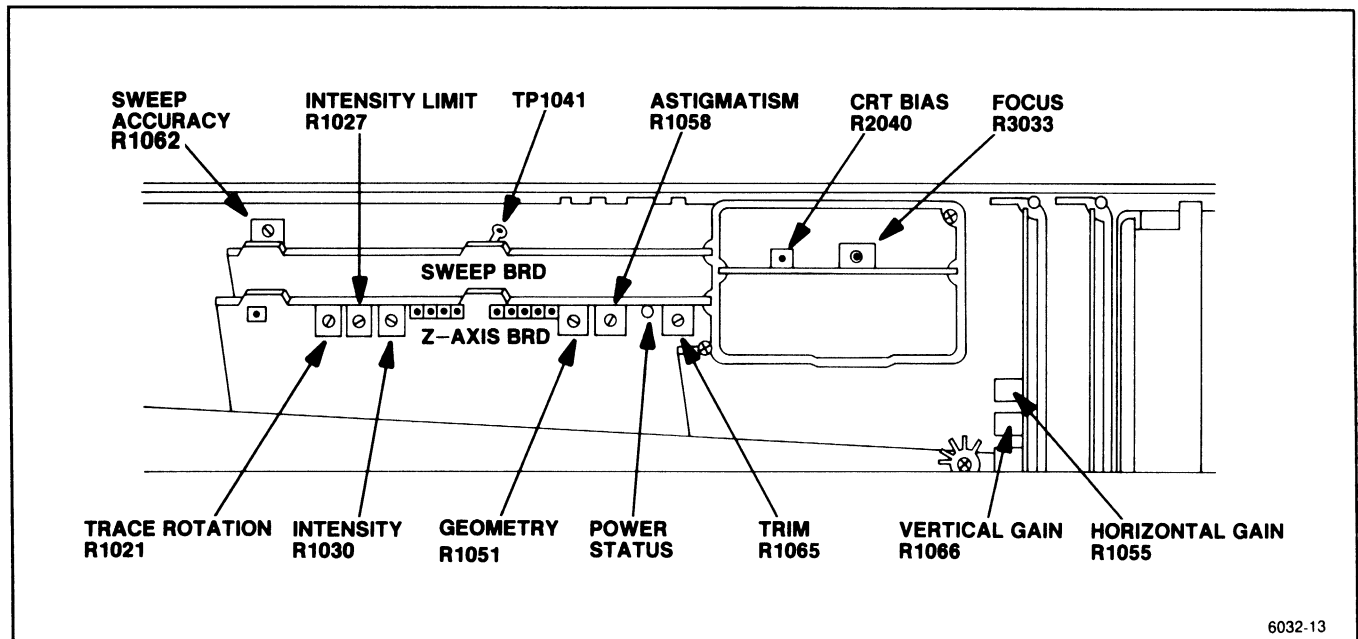
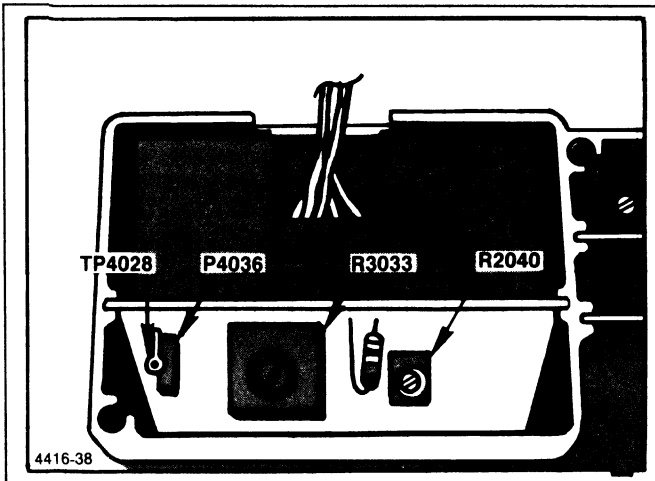

Figure 5-2. Crt display adjustment and test point locations.
Figure 5-3. Adjustment and test point locations on High Voltage module.
b. Remove the cover over the Z-Axis and Sweep boards. Set the Intensity Limit R1027, on the Z-Axis board (Figure 5-2) fully counterclockwise and Crt Bias R2040, on the High Voltage board (Figure 5-3) fully clockwise.
- (2) Turn the INTENSITY clockwise until a crt beam dot appears on screen.
- (3) Focus the dot by adjusting R3033 on the High Voltage board (Figure 5-3) for the smallest round dot.
(4) Set the INTENSITY for a collector voltage 5.5 V higher than the voltage noted in part d, subpart 1.
(5) Use the non-metallic screwdriver to adjust Crt Bias, R2040, counterclockwise until the crt beam is visible, then clockwise until the beam dot just extinguishes, with the screen shaded. (If no dot appears, with the adjustment fully counterclockwise, this will be the bias setting.)
(6) Turn the INTENSITY clockwise until a dot is visible then defocus the dot with the Focus adjustment, R3033. Adjust Astigmatism R1058 (Figure 5-2) for a round dot then refocus with R3033 for the smallest and sharpest dot.
(7) Turn the INTENSITY counterclockwise until the dot just disappears, and again measure the collector voltage at Q4058 or Q4059. Voltage should equal or exceed the voltage set in part d, subpart 4. If the voltage is less, repeat the procedure for setting Crt bias.
(1) Switch POWER off, then remove P4036 (Figure 5-3) on the High Voltage board. Turn INTENSITY fully clockwise, MANUAL SCAN fully counterclockwise, and ensure that the TIME/DIV is in the MNL position. Set the Intensity Limit R1027, on the Z-Axis board, (Figure 5-2) fully clockwise.
(2) Connect the voltmeter between TP4028 (Figure 5-3) and the ground lug on the crt shield. Switch POWER back on. After the instrument initializes, activate 2 dB/DIV and switch Digital Storage off.
- (3) Adjust Intensity Limit R1027 (Figure 5-2) for a voltage reading of 0.9 V at TP4028.
- (4) Switch POWER off and re-install the jumper P4036 on the High Voltage board. Turn POWER on and adjust the INTENSITY for normal viewing.
g. Activate ZERO SPAN and adjust REFERENCE LEVEL until the trace is approximately mid-screen; then adjust the Trace Rotation R1021 (Figure 5-2) so the trace is aligned with the graticule lines.
h. Activate VIEW A and VIEW B then use the PEAK/AVERAGE cursor, positioned at the top then bottom of the screen, as a reference line to adjust Geometry R1051 (Figure 5-2) for the straightest trace at top and bottom of the screen.
j. Adjust Delta Intensity R1030 (Figure 5-2) so the brightness of the readout characters is slightly higher than the trace. Readout characters should be just visible after the trace has disappeared. This ratio provides
c. Adjust Vert Gain, R1066 (Figure 5-2) for a full screen display.
e. Set TIME/DIV to MNL. Monitor TP2 on the Sweep board (Figure 5-2) with a voltmeter (Digital Multimeter). Set the MANUAL SCAN control for 0.0 V reading on the voltmeter (TP2). Set the horizontal POSITION control to center the CRT beam (dot).
g. Adjust Horiz Gain, R1055 (Figure 5-2) to position the crt beam to the right graticule edge (10th graticule line).